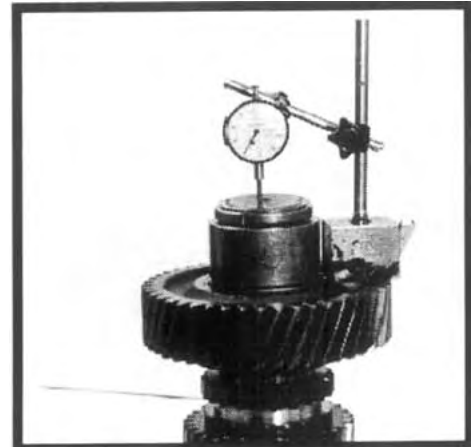

Figure 6.14
12. Install a dial indicator as depicted in Figure 6.14. Lift upward on the gear assembly and note the gear end float on the dial indicator. If the end float is not within specification (.000 to .002 inch), it will be necessary to disassemble the shaft by performing Steps 2 and 3 under "INTERMEDIATE SHAFT DISASSEMBLY" in Section 4. Measure the thickness of the original spacer ring and select a new ring to provide end float within the specification. See item 8 in Section P.3 or P.4 in the parts manual for a list of available spacer rings.